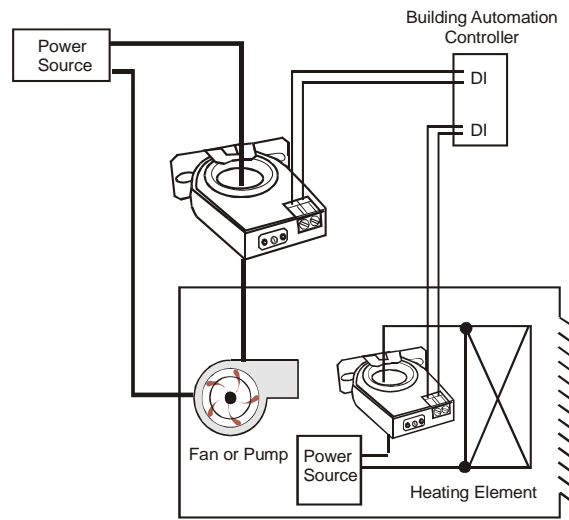
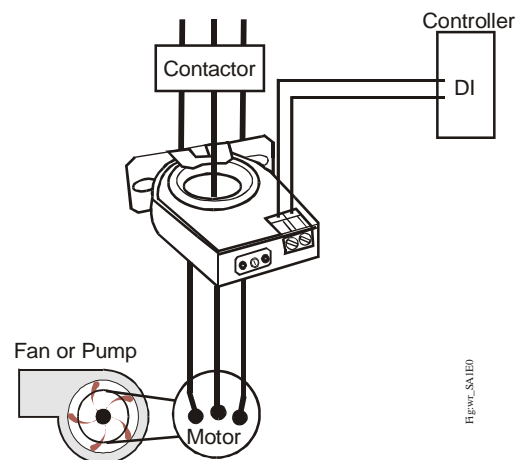

Figure 2: Model CSD-SF0C0-1
Figure 3: Model CSD-SA1E0-1
3. Wire CSD output terminals to the control box Digital Input (DI) terminal (30 V maximum terminal voltage).
4. Reconnect the power conductor cable (see Figure 2 and Figure 3 for wiring examples).